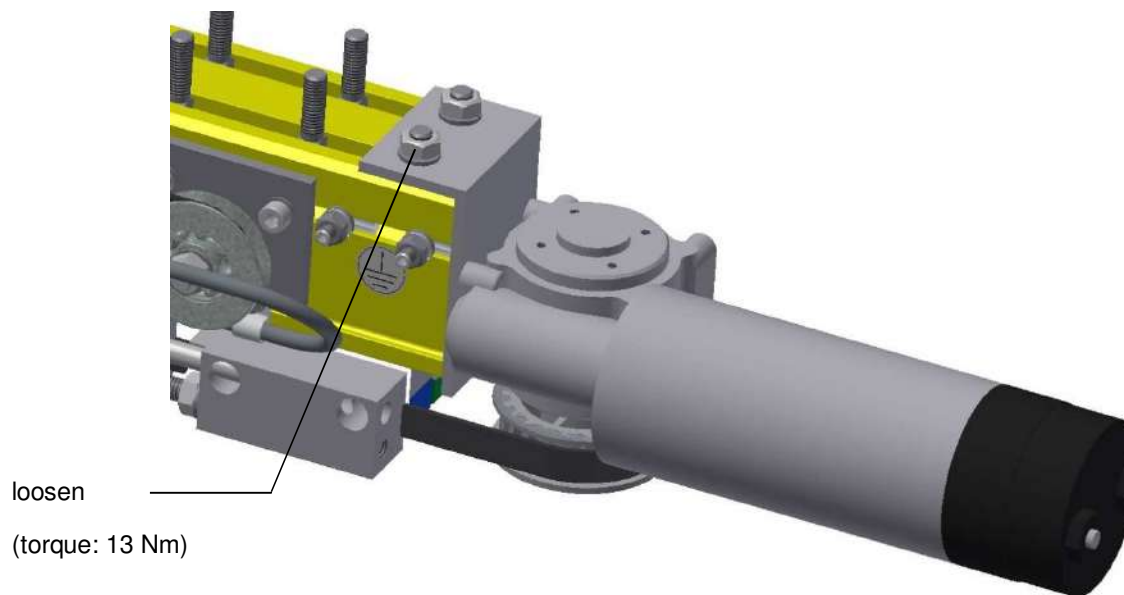
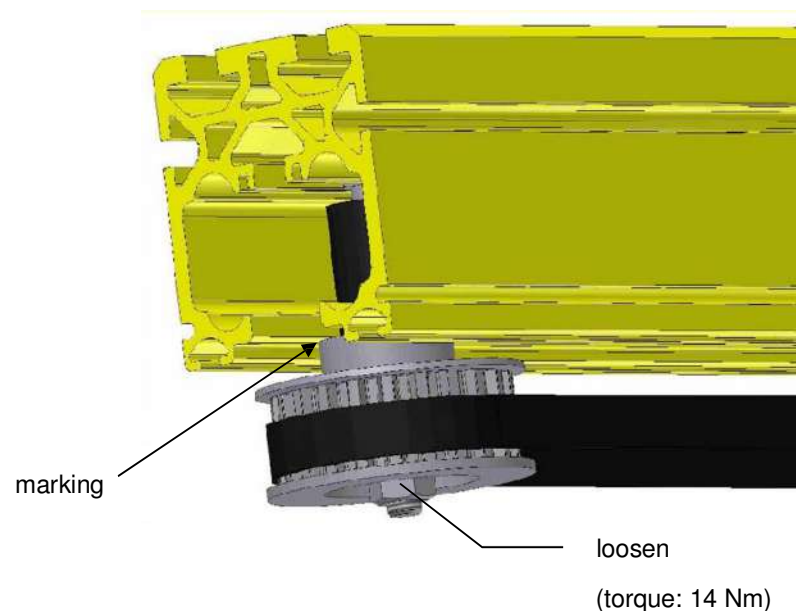
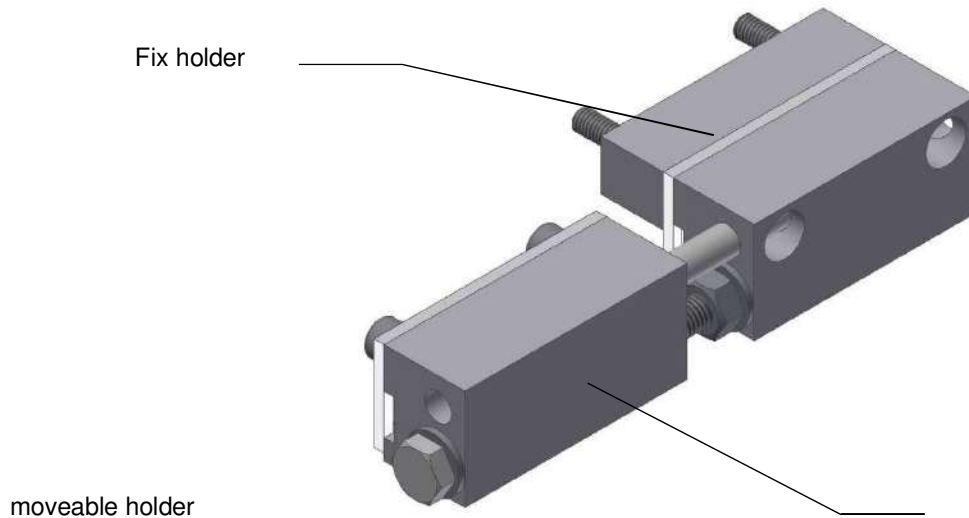
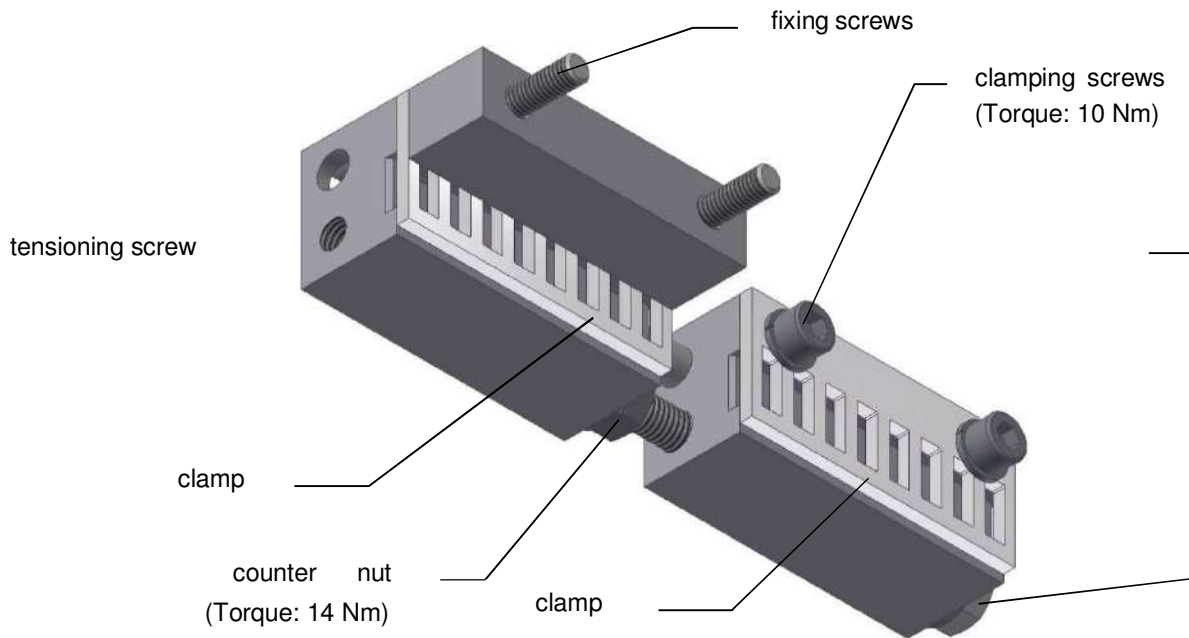

Figure 12: Actuator
Figure 19: End stop
Figure 21: Tensioning device (front view)
Figure 22: Tensioning device (back view)
- 3) Unscrew the motor on the guide tube (2 Nuts M8) (Figure 12)
NOTE The carriage can only be replaced if the door leaf is disengaged. The end stop in door-opened position has to be disassembled (Figure 19).
- 2) Unscrew the actuator of the guiding profile (Figure 12)
- 1) Mark the position of the end stop on the guide tube (Figure 19)
- 3) Loosen the M8 nut at the end stop until the end stop can be moved (Figure 19)
- 2) Unscrew the tensioning screw and pull out the movable belt holder from the tensioning device (Figure 21 and Figure 22)
- 3) Loosen the clamping screws until the toothed belt can be removed (Figure 22)
- 1) Loosen the counter nut on the tensioning device (Figure 22)
- 4) Loosen the fixing screws at the fix belt holder on the carriage until the belt can be removed (Figure 22)
- 1) Mount the fix belt holder to one end of the belt (Figure 21)
- 3) Guide the belt around the deflection pulleys (Figure 19) and the motor deflection (Figure 12), insert it into the moveable belt holder and fix it with the clamping screws (Figure 22).
- 4) Fasten the moveable holder to the fix holder with the tensioning screw (Figure 22 ; pretension the belt as much as possible).
- 6) Adjust the correct belt tension (see chapter 6.2.4) and secure the tensioning device using the counter nut (Figure 22)